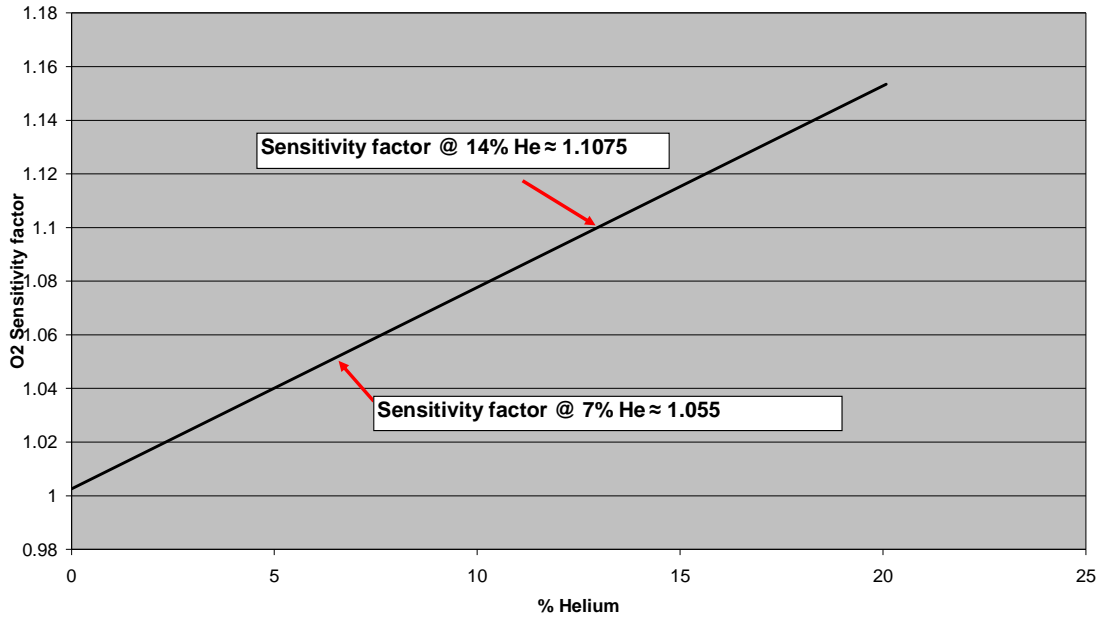

Figure 2: Sensitivity factor of oxygen sensor in presence of helium
Figure 2 shows us the sensitivity factor of the capillary sensor in the presence of varying levels of helium. With zero helium, we are saying that the sensitivity factor is 1.0. That is to say that the sensor will give a correct oxygen reading. As the helium increases, so too does the sensitivity factor.
- 1) Fit the flow adaptor to the O₂ sensor and connect, with tubing, the cylinder and set the fine control valve to half scale allowing the gas to flow over the sensor (see Figure 2)